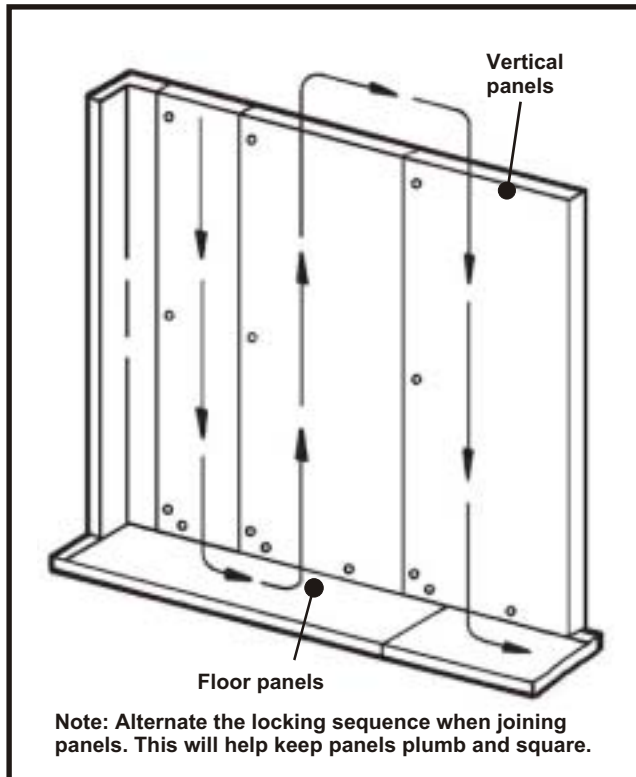

Fig. 15
- E. Continue erecting vertical panels in both directions, checking panels for alignment and overall dimension. When enough vertical panels have been set to allow installation of the first ceiling panel, begin assembling the ceilings. See Section 9 for method of installing remaining vertical and ceiling panels. Also check panels for plumb with a 48" spirit level. Adjust if necessary to maintain a plumb and level condition. (See Fig. 15.)
- I. Continue installing verticals in this manner, periodically checking to make sure that panels remain plumb and level. Refer to Fig. 15. (Staggered locking sequence.)